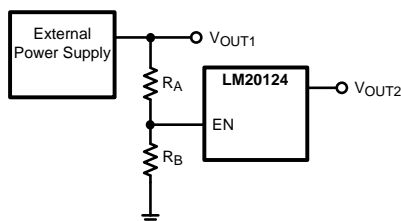

Figure 29. Sequencing LM20124 with Precision Enable
The precision enable (EN) and power good (PGOOD) pins of the LM20124 can be used to address many sequencing requirements. The turn-on of the LM20124 can be controlled with the precision enable pin by using two external resistors as shown in Figure 29.